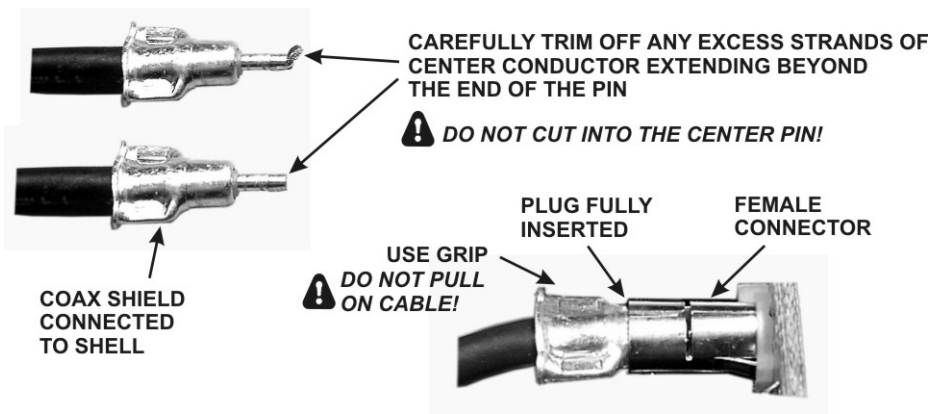

Figure 81. TMP Cable Connectors.
☐ Locate the three TMP cables. They are about 1/8" (3 mm) diameter coaxial cables with connectors at each end as shown in Figure 81. Check each cable and trim any excess center conductor strands extending beyond the end of the pin as shown. This will make mating the connectors much easier.
□ Install the three TMP cables between connectors on the KREF3 board, the main RF board and the KSYN3 board as follows. Handle the connectors by the finger-grip area shown in Figure 81, especially if you unplug a connector. **Do not pull on the coaxial cable to unplug a connector!** When mating the connectors, be sure the plugs are fully inserted as shown in Figure 81. To make the connectors easier to mate, first be sure the center pin is started in the socket, then you may twist the connector back and forth while holding it by the metal ears if needed to seat it fully as shown in Figure 81.